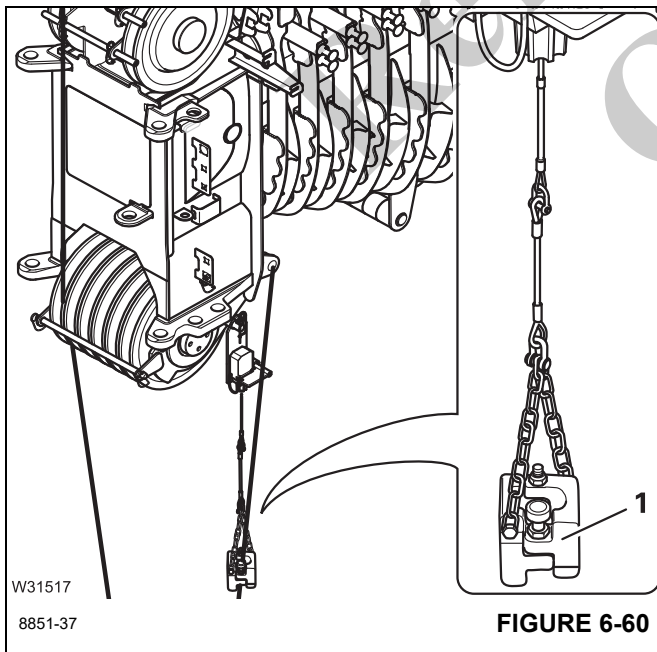

FIGURE 6-60
- Attach the anti-two block switch weight (1), (Figure 6-60).